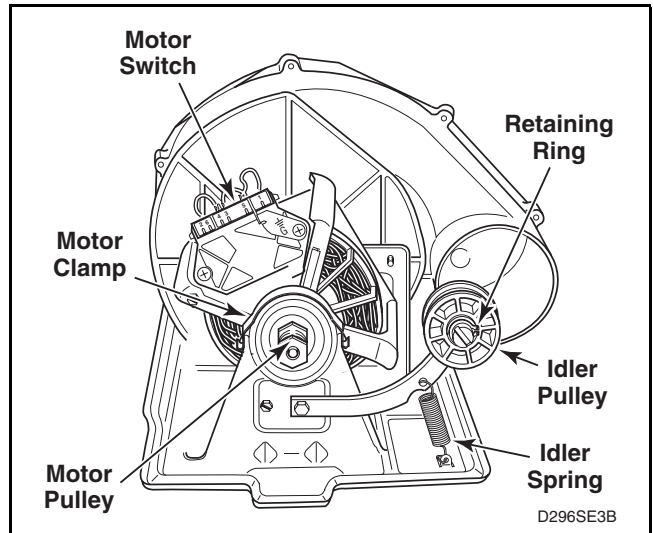

Figure 44
Refer to *Figure 44* for motor and idler pulley removal.
- (2) Pry two motor clamps off motor mounting bracket with screwdriver, then lift motor out of mounting bracket. Refer to *Figure 44*.